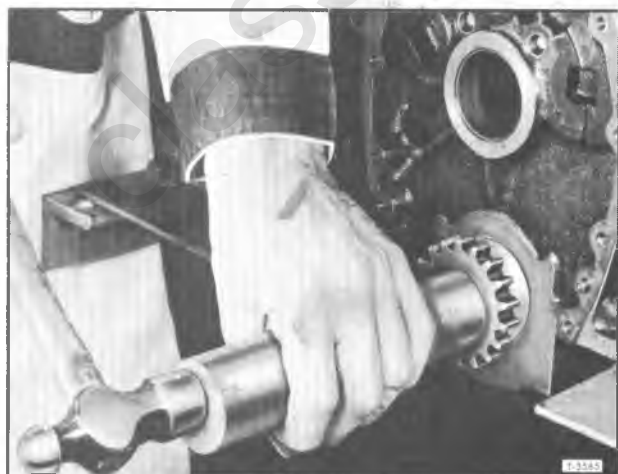

Figure 43—Installing Crankshaft Sprocket
1. If crankshaft sprocket has been removed, use Tool (J-5590) as shown in figure 43 and install